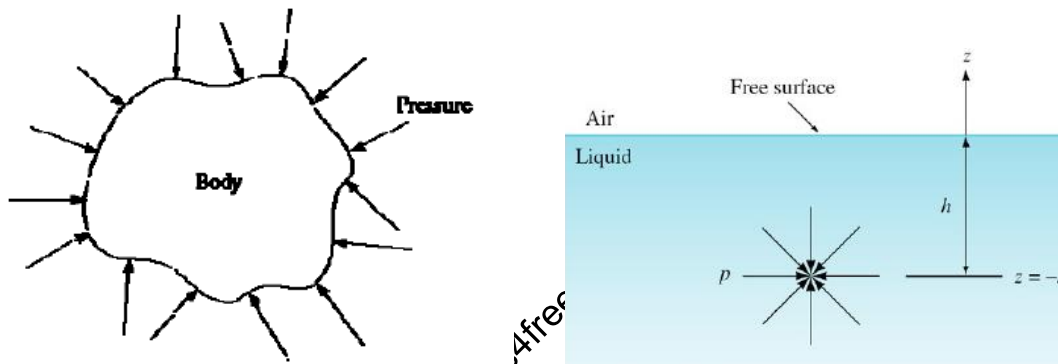

Fig.1 Definition of Pressure
Consider a soap bubble of radius r as shown in Figure 1. Let the external pressure be P_0 and the internal pressure P_1 . The excess pressure ΔP within the bubble is therefore given by: Excess pressure $\Delta p = (P_1 - P_0)$
2.0 INTRODUCTION: Fluid is a state of matter which exhibits the property of flow. When a certain mass of fluids is held in static equilibrium by confining it within solid boundaries (Fig.1), it exerts force along direction perpendicular to the boundary in contact. This force is called fluid pressure (compression).